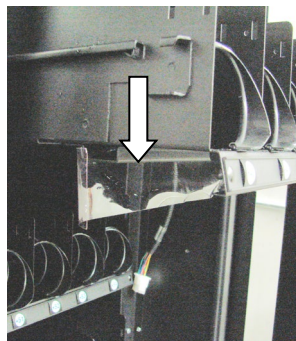

Figure 11 – Air Curtain
8. Remove air curtain from bottom side of tray four (Fig. 11)